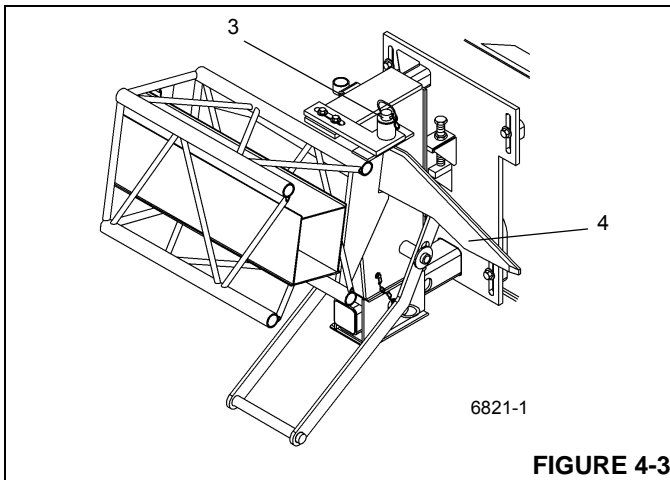
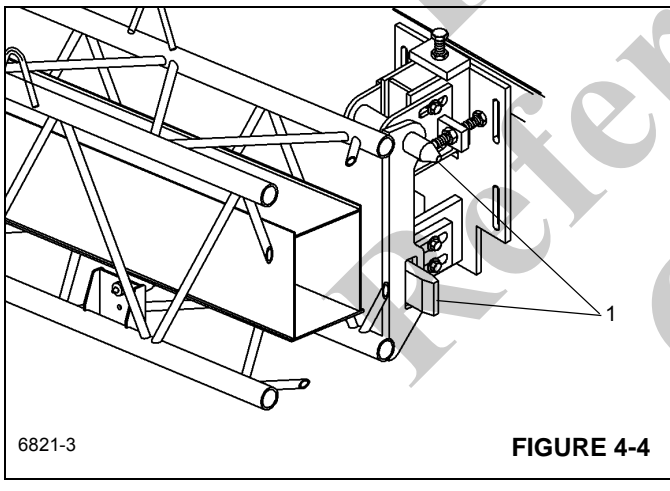

FIGURE 4-3
FIGURE 4-4
4. Remove the retaining pin from the hitch pin (Figure 4-3, 3) that secures the boom extension to the rear stowage bracket. Remove the hitch pin, unlocking the boom extension from the boom.
6. Raise the boom to horizontal and extend the boom approximately 51 to 64 cm (20 to 25"). Make certain that the boom extension stowage lugs clear the guide pins (Figure 4-4, 1) and ramp (Figure 4-3, 4) on the front and rear stowage brackets.